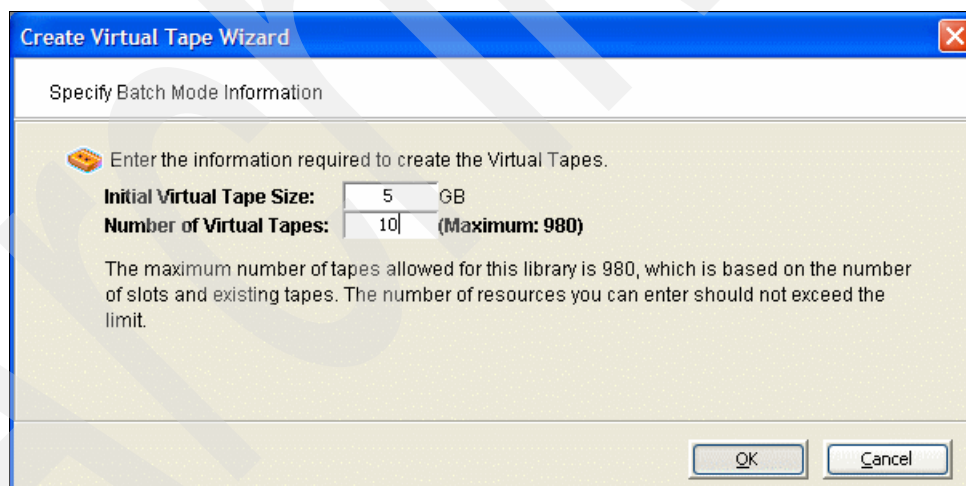

Figure 6-49 Creating additional virtual volumes: specify volume attributes
2. In the Specify Batch Mode Information panel, you can override default virtual tape attributes. Click **OK** on the panel shown in Figure 6-49 to create the virtual tape volumes.